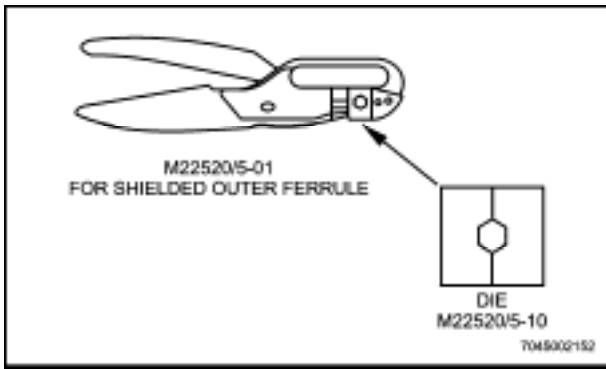

Figure 12-46 Crimping Tool for Shielded Outer Ferrule
- Crimp the outer ferrule with M22520/5-01 tool and M22520/5-10 die. See Figure 12-46.